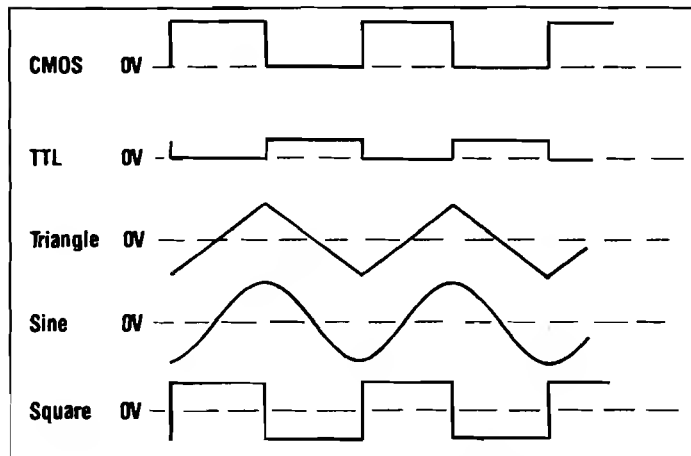

Fig. 2. Output Waveform And Phase Relationship.
4. Select the waveform desired (square, triangle, or sine) by depressing the appropriate **FUNCTION** switch. The phase relationships of the waveforms available are shown in Fig. 2. Be sure that the **DUTY** control is set to **CAL**.